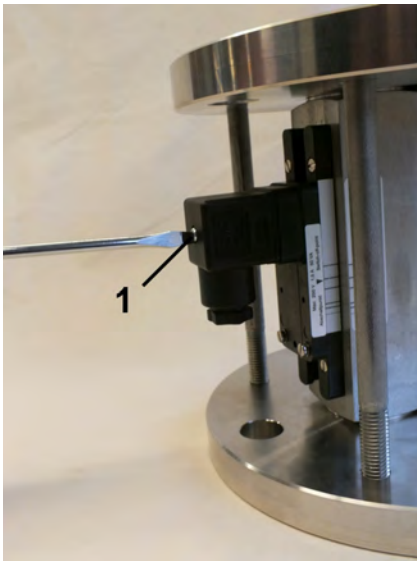

Fig. 21: Detach socket
- 1.** ➤ Release the fixing screw (Fig. 21/1) from the socket
9.  Place the socket onto the connecting plug and tighten the fixing screw (Fig. 21/1).